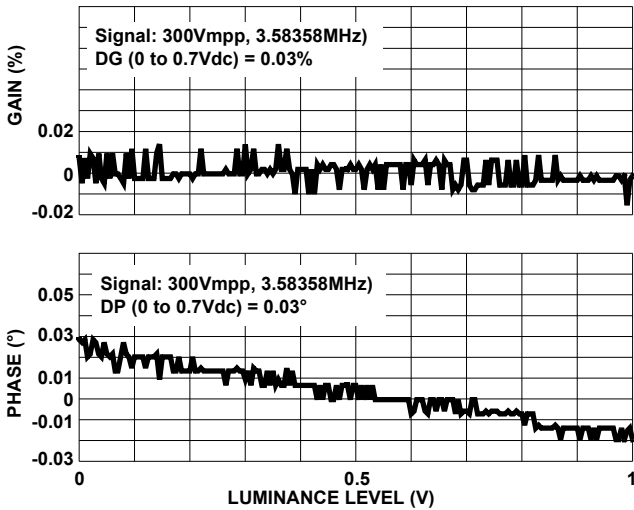
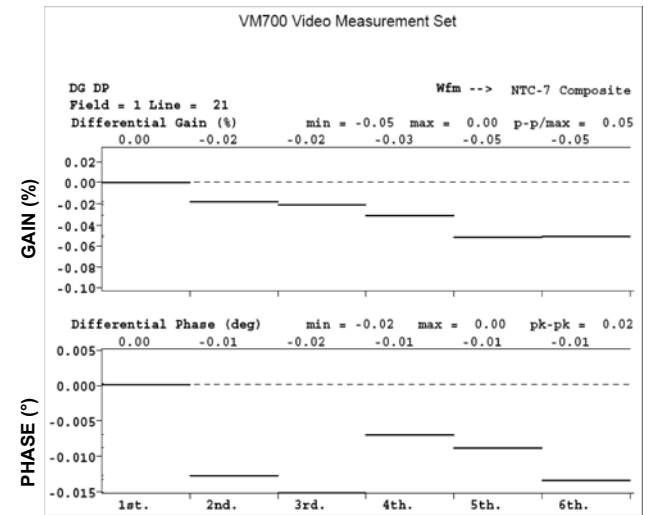

FIGURE 15.
FIGURE 16.
Figure 15 shows the measured gain and phase of a 3.58MHz, 300MVp-p signal at the output of the switch relative to the signal at the input of the switch as you vary the DC offset of the signal from 0V to 1V using a network analyzer. The data from the sweep was used to calculate the differential gain (DG) and differential phase (DP). Over luminance range of 0V to 1V: DG = 0.03% and DP = 0.05°. Over luminance range of 0V to 0.7V: DG = 0.03% and DP = 0.03°. DG and DP plot using an actual NTSC video signal is shown in Figure 16. DG = 0.05% and DP = 0.02°.